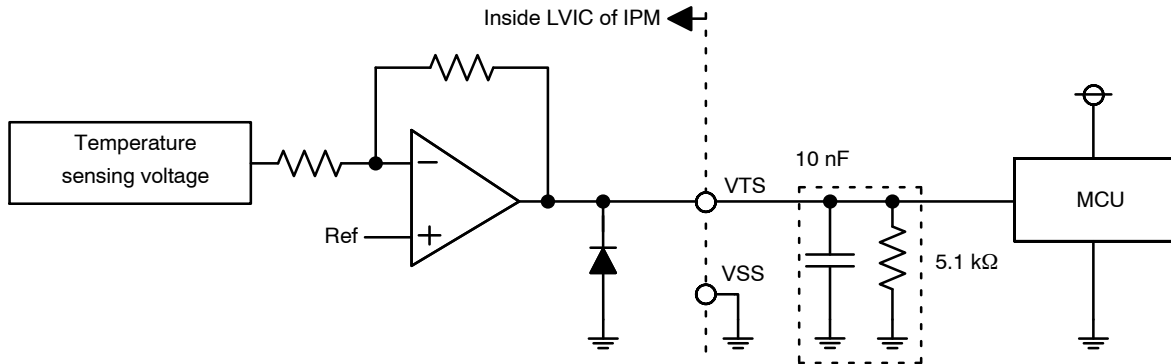

**Figure 3. Switching Time Definitions**
| HS                   | ton                                  | VPN = 600 V, VDD = 15 V, Ic = 10 A, Tj = 25°C,Inductive Load SwitchingSee Figures 3, 23, 24(Note 4) | 1.00 | 1.30 | 1.90 | μs   |
- ton and toff include the propagation delay of the internal drive IC. tc(on) and tc(off) are the switching times of IGBT under the given gate-driving condition internally. For the detailed information, please see *Figure 3*.